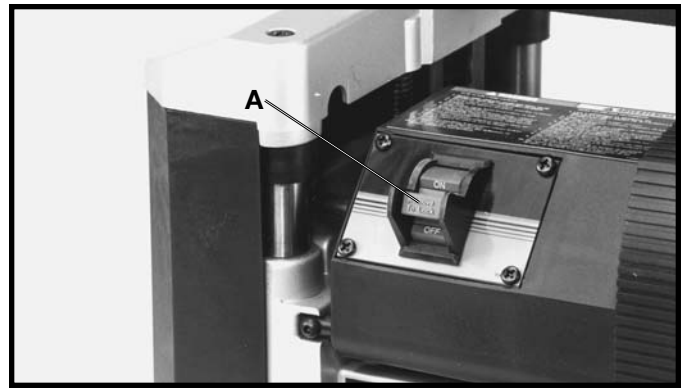

Fig. 14
The on/off switch (A) Fig. 14, is located on the front of the planer motor. To turn the machine “ON” move the switch up to the “ON” position. To turn the machine “OFF” move the switch down to the “OFF” position.